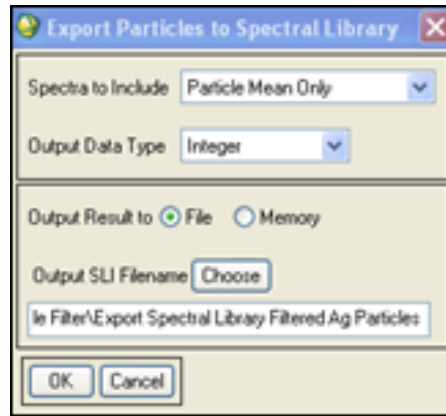

Figure 8.1f. Export Particles to Spectral Library
- The Export particles to Spectral Library dialog appears (Figure 8.1f).